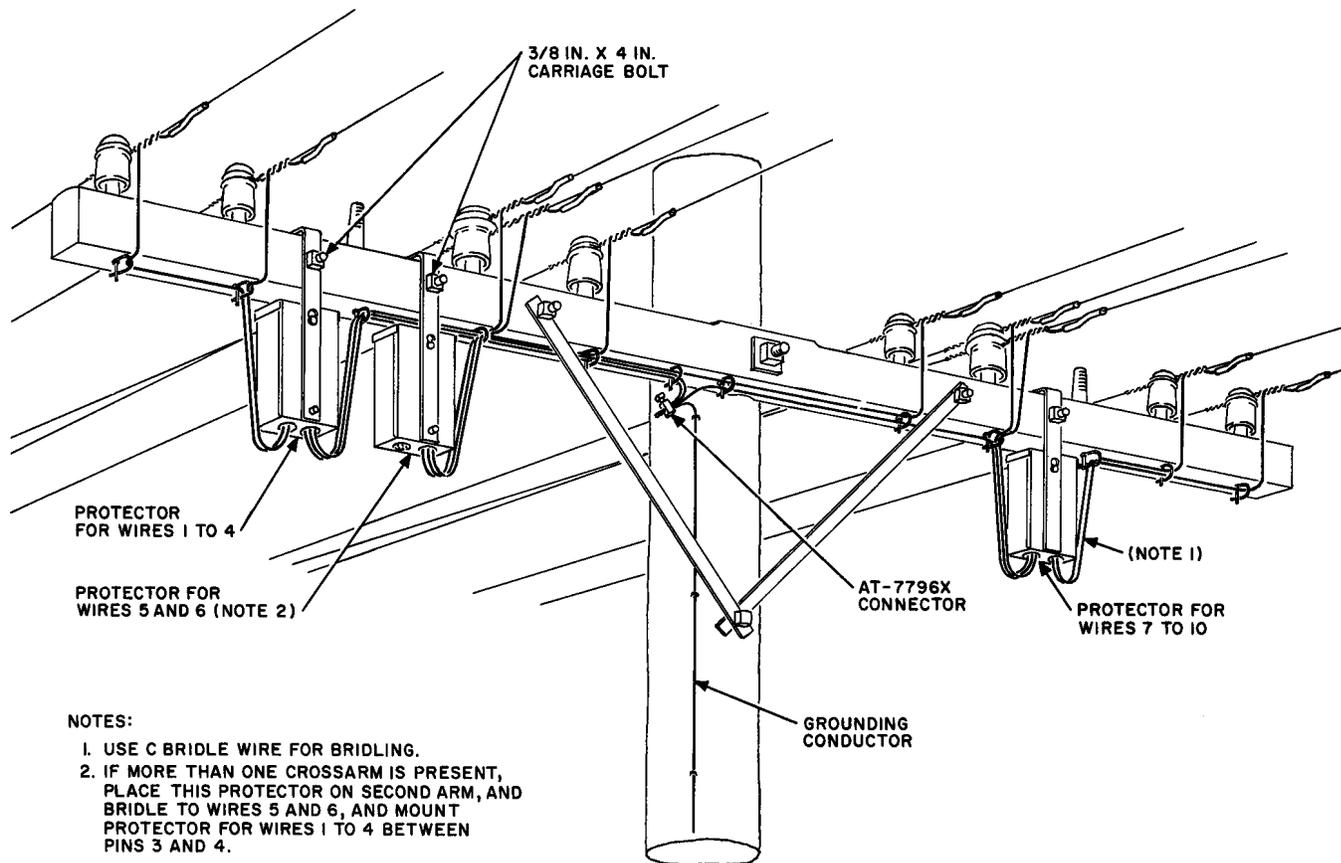

Fig. 4—Mounted on Crossarm
**5.02** Mounting a 104-type protector and wiring it to open wire lines are shown in Fig. 4 and